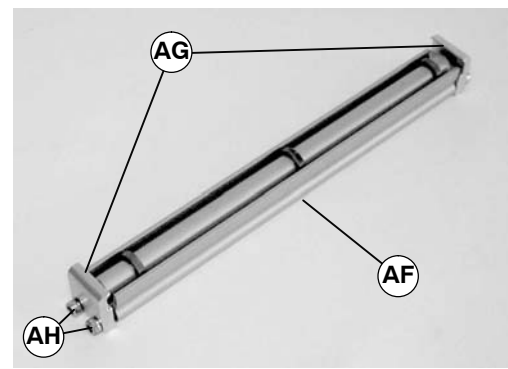

Figure 16
- Loosely attach two clips (AG of Figure 16) on roller and guard assembly (AF) with four screws (AH). Do not tighten screws.
- Attach return roller assembly (AI of Figure 17) on conveyor (Y). Tighten screws (AH of Figure 16) to 80 in-lb (9 Nm).